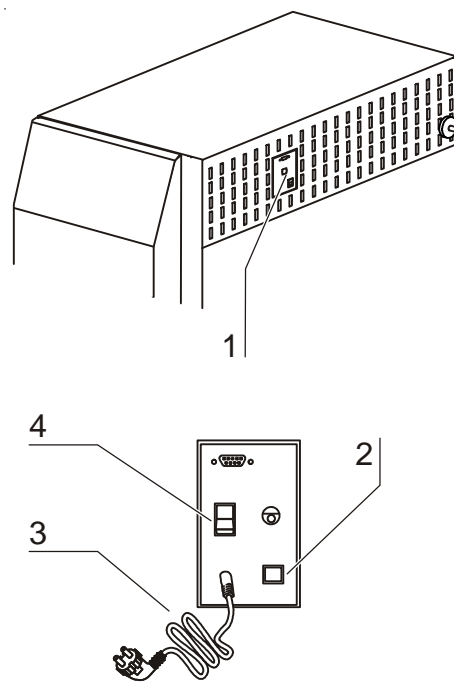

Fig. 20,
1. Before connecting the device to the power supply, check to see if the voltage of the power supply corresponds with the specifications on the nameplate at the rear of the device. If the ratings given for voltage (V) and current (A) are not correct, the device must not be connected to the power supply.
2. **Fig. 20:** Connect the grounding plug [3] of the power supply cable to a properly grounded and fused socket.